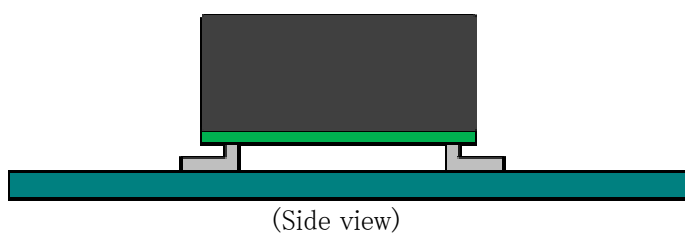

Fig.1.1 Mounting method
- (1) Input :DC 18 ~ 36 [V]
- (2) Output :Rated output
- (3) Cooling method :Convection cooling
- (4) Mounting method :Shown as Fig.1.1